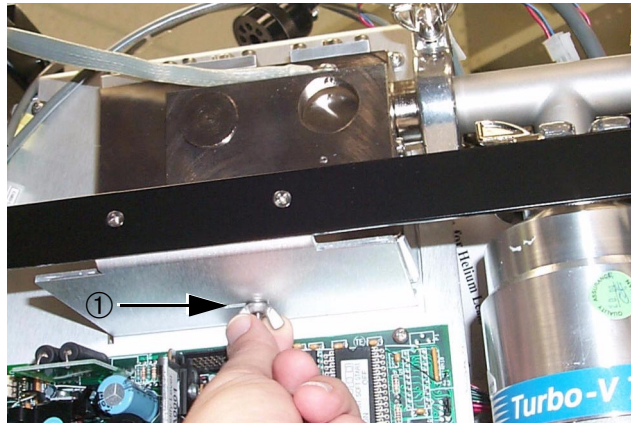

Figure 5-4 Wing Nut
5. Disconnect the ground cable from the spectrometer tube magnet by removing the screw ① with a straight screwdriver.
6. Remove the wing nut ① located underneath the shelf below the spectrometer tube (Figure 5-4).